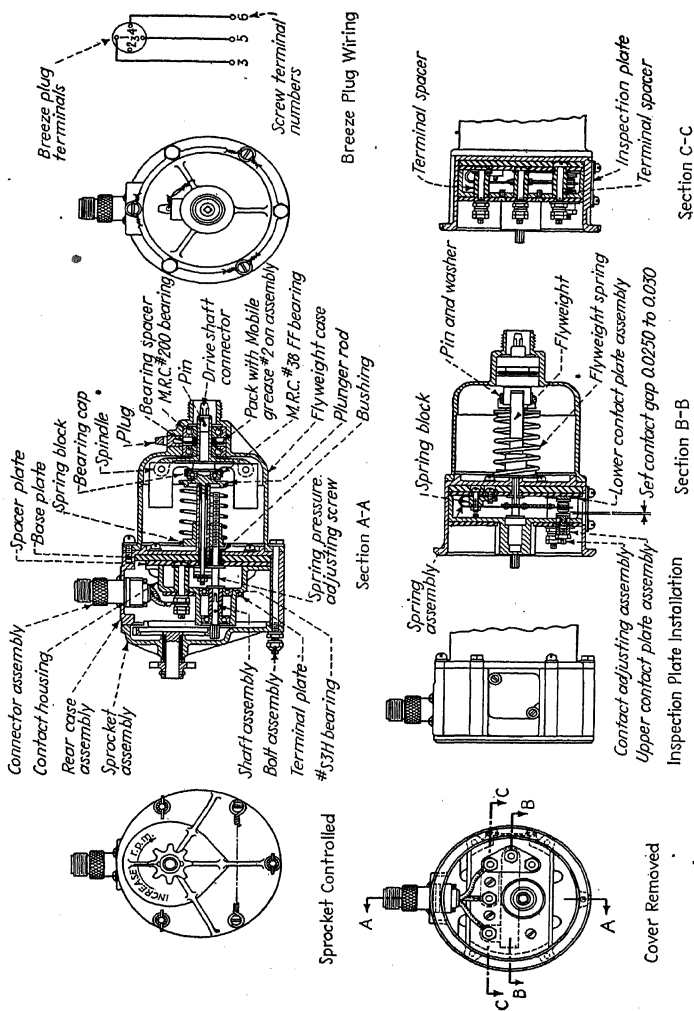

FIG. 65.—Details of sprocket-controlled governor assembly.
**Assembly. Governor.**—Assembly of the governor with three methods of control is shown in Figs. 65 and 66. Press the spindle bearings and the spacer into place on the spindle.